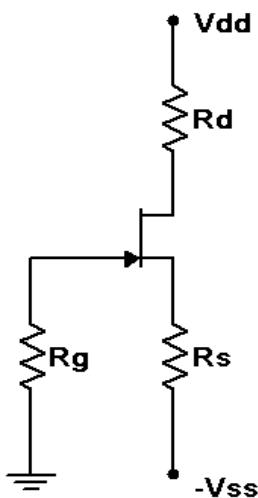

Figure 3
- Consider the circuit of Figure 3 using $V_{dd} = 15$ volts, $V_{ss} = -3$ volts, $R_d = R_s = 4.7 \text{ k}\Omega$ and $R_g = 330 \text{ k}\Omega$. A reasonable approximation for V_{gs} in this circuit is -2 volts DC. Based on this, calculate and record the expected voltages for JFET 1 in Table 4. Also record the expected drain current in Table 5.
- Build the circuit of Figure 3 using $V_{dd} = 15$ volts, $V_{ss} = -3$ volts, $R_d = R_s = 4.7 \text{ k}\Omega$ and $R_g = 330 \text{ k}\Omega$. Measure and record the voltages for JFET 1 in Table 4. Based on V_D , compute and record the experimental drain current in Table 4. Also find and record the drain current deviation.
3. In general, identify two ways of decreasing the drain voltage in the circuit of Figure 3.